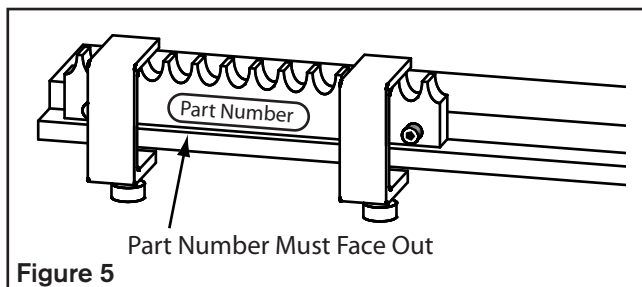

Figure 5
4. Apply a serviceable thread locking compound to the customer supplied mounting bolts, lightly secure the first rack length to the mounting surface and clamp it in place while protecting the rack teeth by distributing the clamp load over several teeth. Make sure the clamps are close to each bolt as they are tightened to ensure full rack to mounting surface contact. See Figure 5. Socket head cap screws are recommended for maximum pinion shoulder clearance. Make sure the side of the rack with the part number on it is not against the mounting surface and any cut rack ends are at the end of the run.